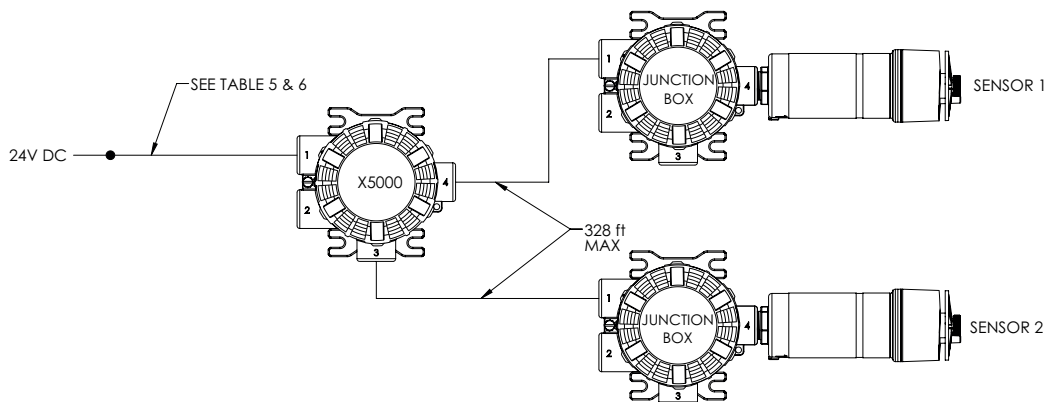

Figure 29 Two Remoted Sensors
Incoming power and signal cables should be a braided shield cable such as Alpha Wire 3248 or equivalent. The braided shield must be terminated to the instrument housing with a 360 degree connection to earth ground as shown in Figure 29 or alternatively, the earth ground at the user's power source location. An external Class 2 power supply is required to supply 11-30 VDC to the ULTIMA X5000. Incoming power and signal cables should be a braided shield cable such as Alpha Wire 3248 or equivalent
6. Connect the power and analog output wires. Wire locations are marked on the cover plate (see Figure 29 ):